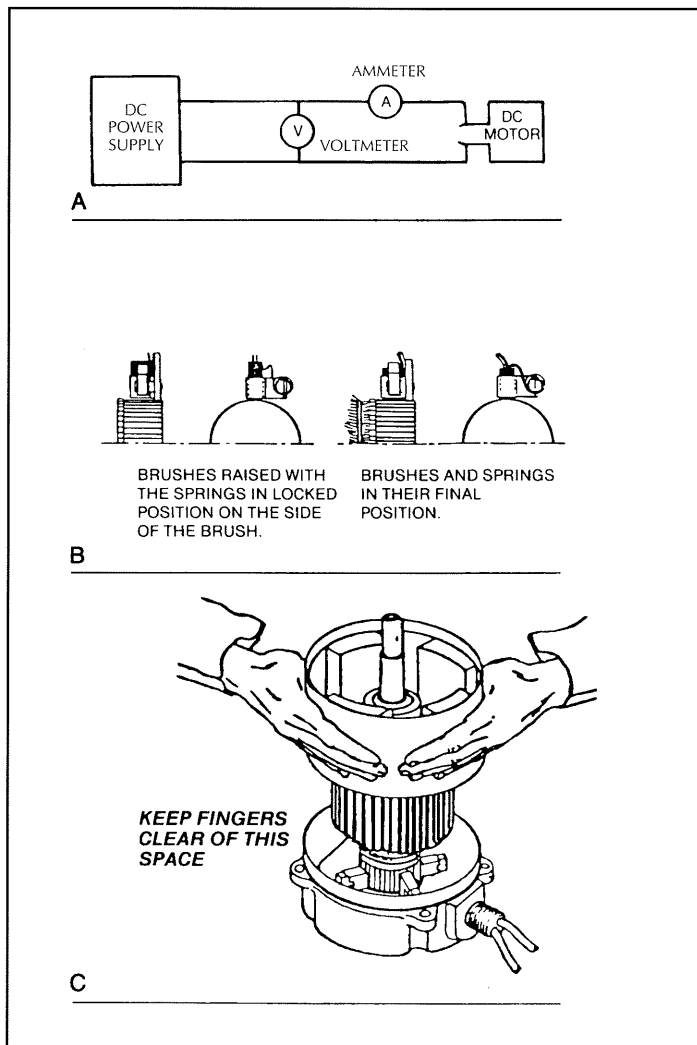

Figure 3-16: Electric Motor Service
3.13 Electric Motor (Figure 3-16)